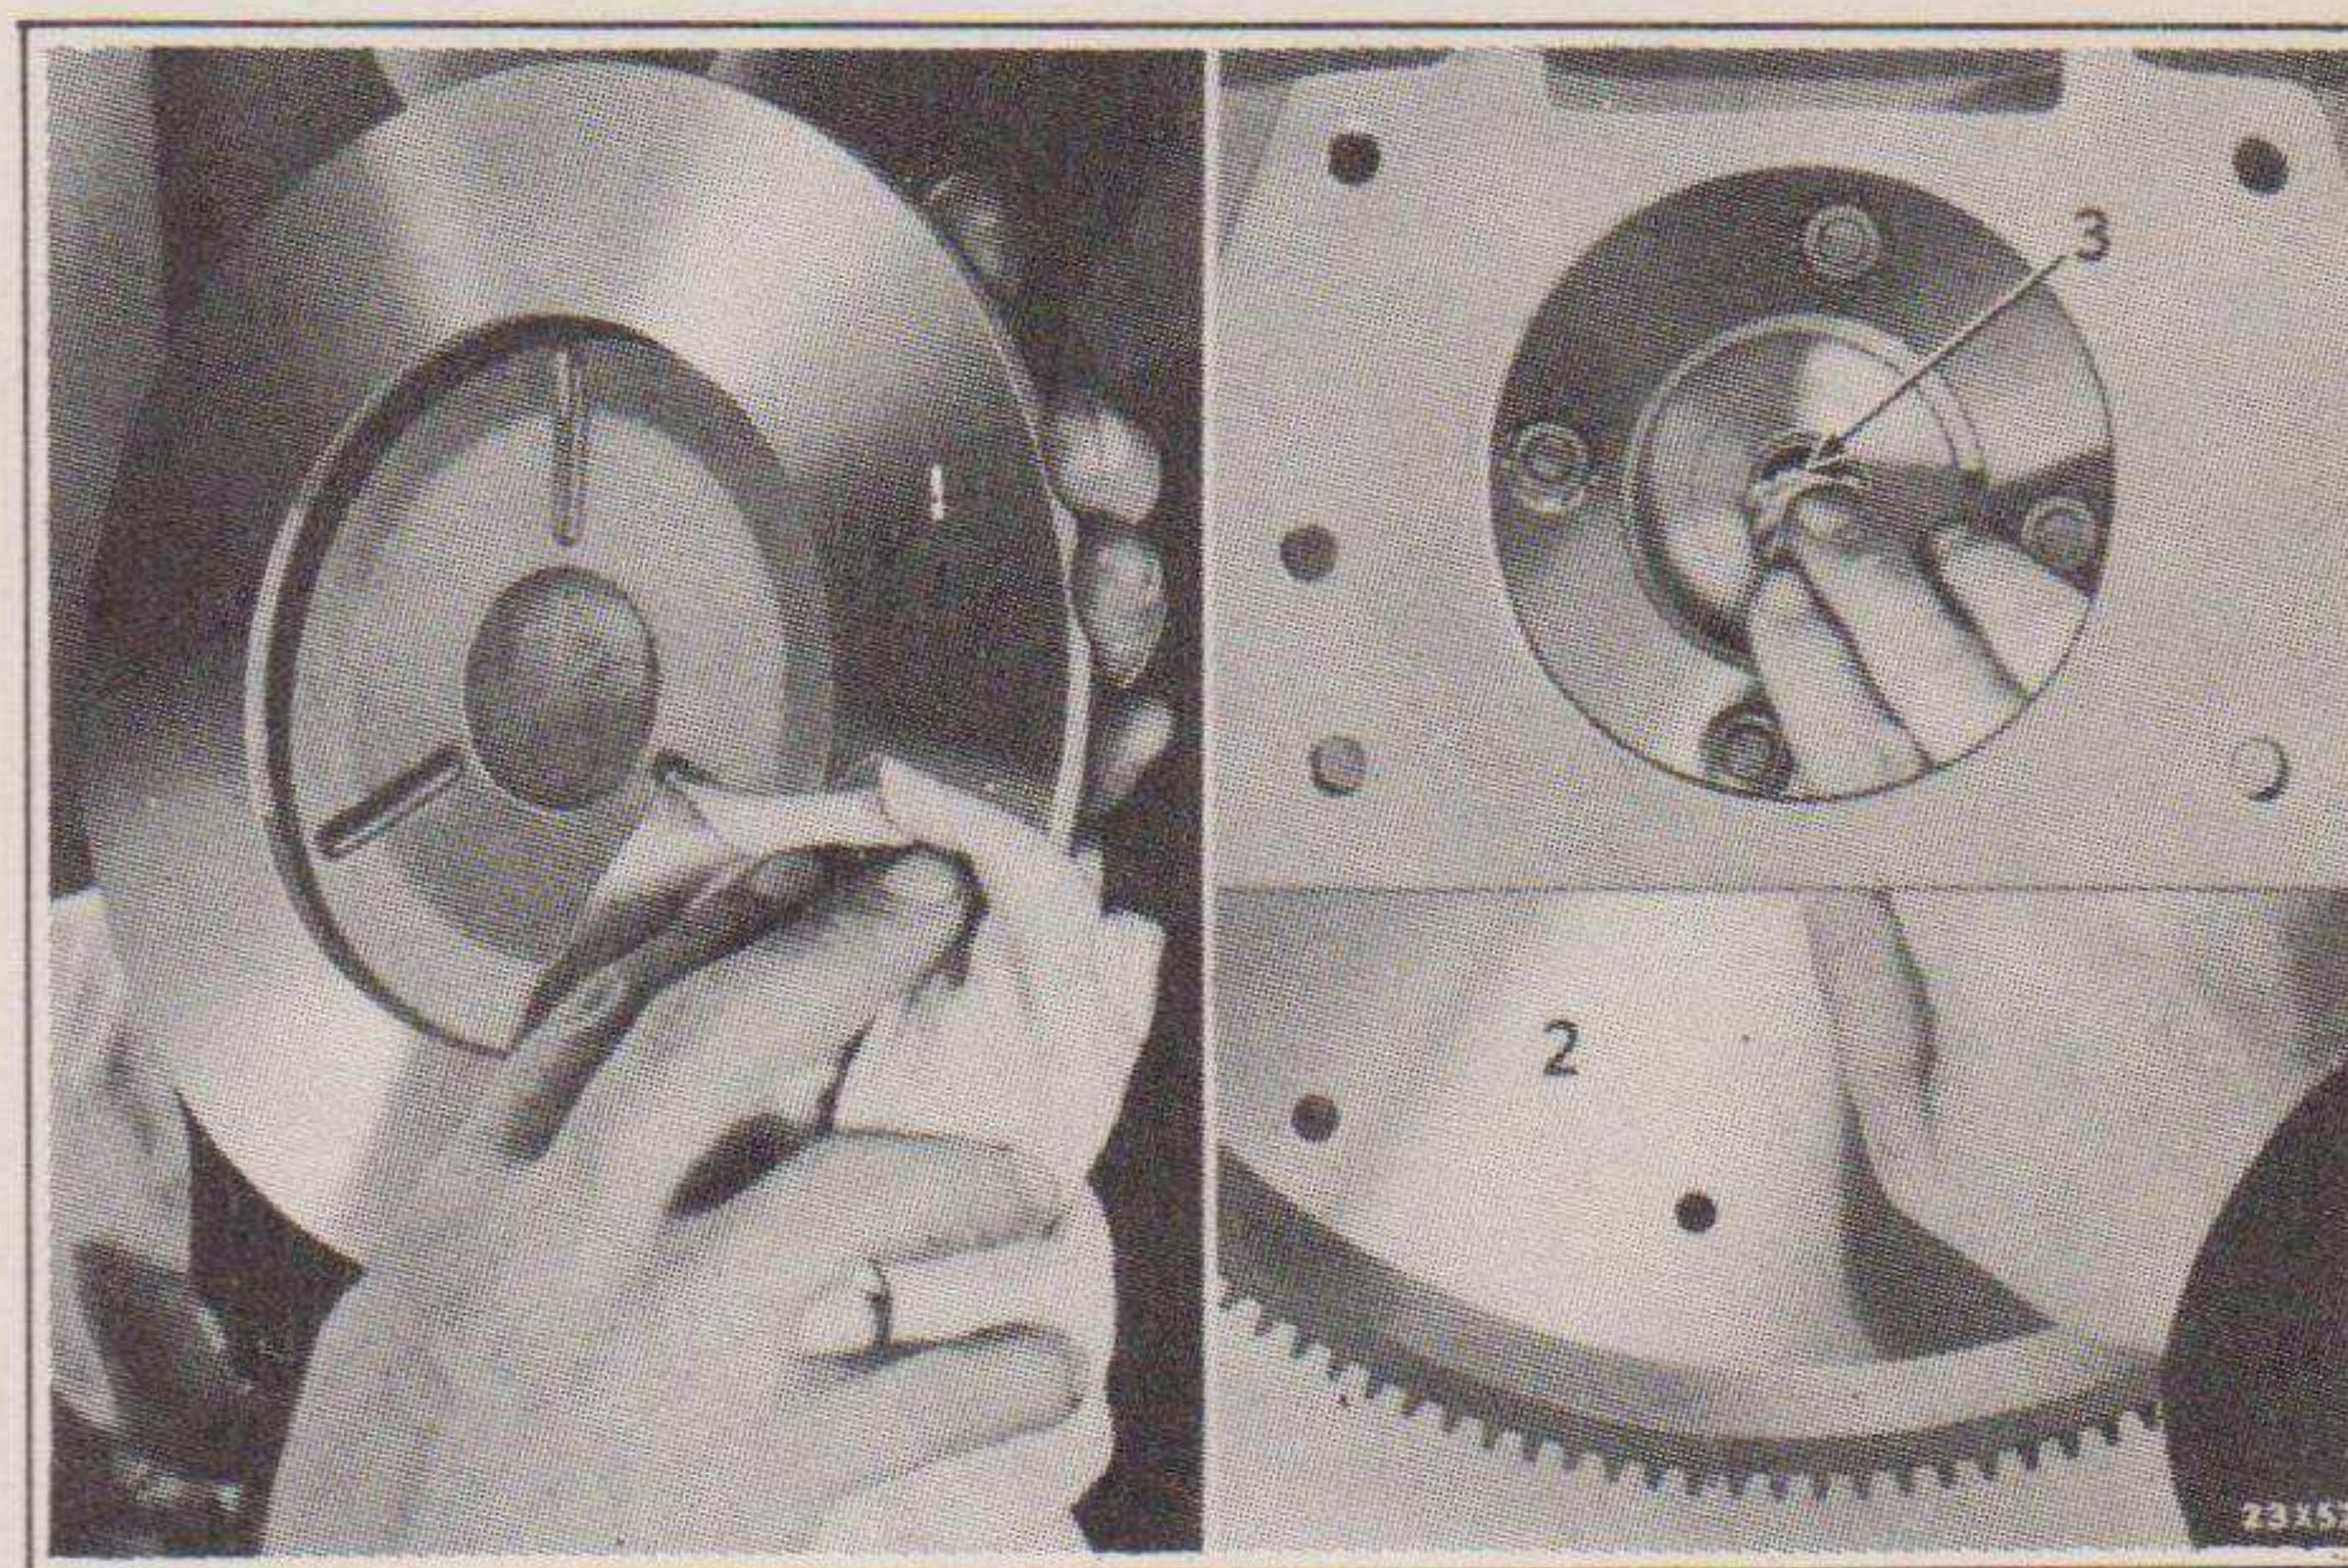

Fig. 87—Cleaning Clutch Friction Surfaces and Lubricating Pilot Bushing
- (b) Clean the surfaces of the flywheel and pressure plate thoroughly, making certain that no oil remains on these parts. See Fig. 87.